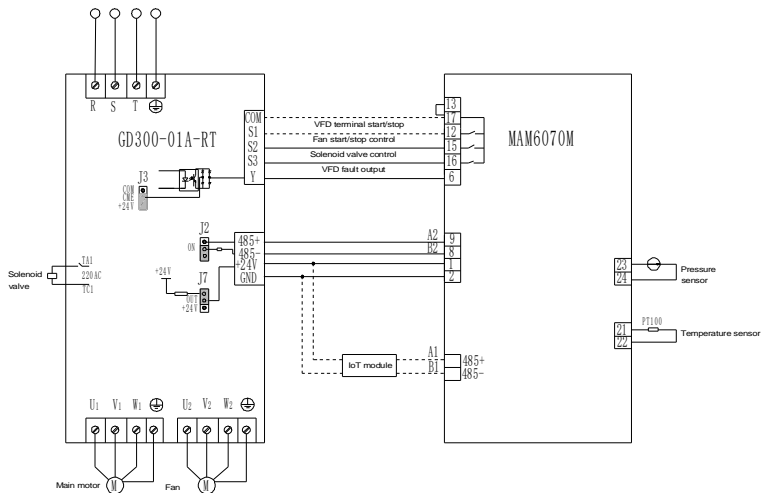
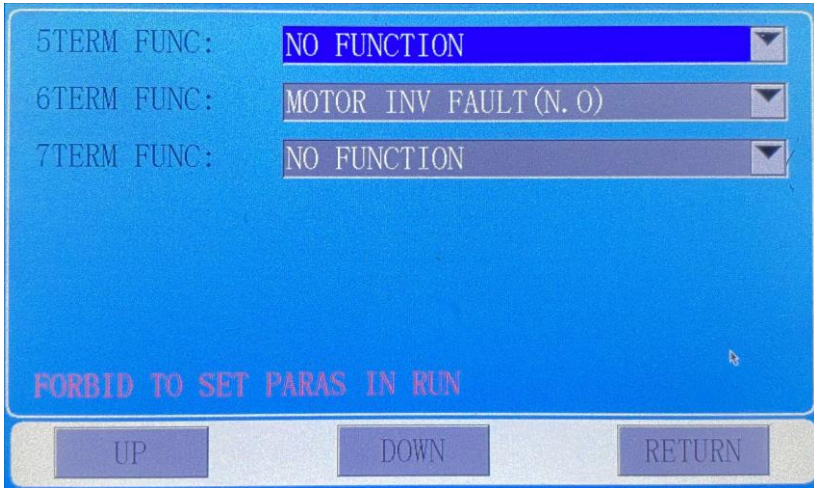

Figure 4-13 Wiring diagram for Plot controller 6070M + GD300-01A-RT VFD
Figure 4-19 Hardware parameter setting interface
2. Set jumpers according to Figure 4-13. Set P06.01=5, set the calibration parameter of Plot controller (**Phase sequence protection value**) to 0 and block **Phase sequence error 1**, as shown in Figure 4-20. Set the hardware parameter of Plot controller pin 6 to **Main motor VFD fault NO**, as shown in Figure 4-19. After these parameters are set completely, main motor VFD fault output is available.